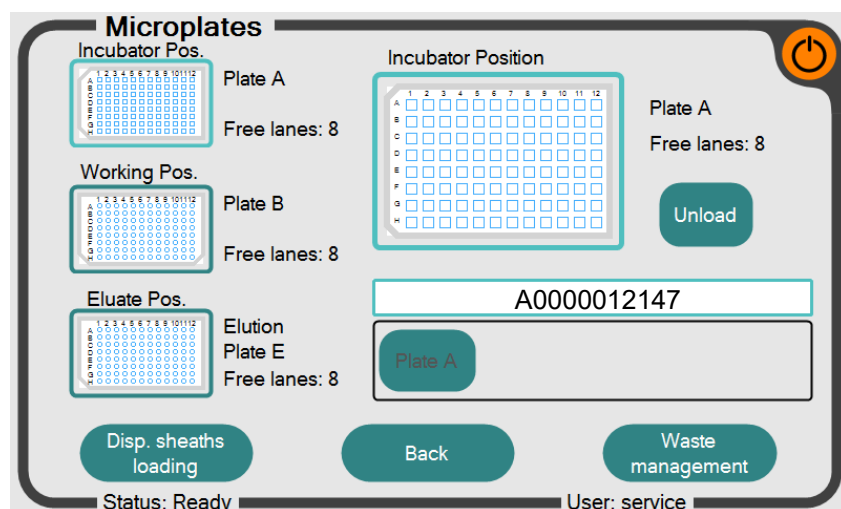

Figure 14: Plate loading screen of the InviGenius® software
Press the bottom “Microplates loading “. Analogous to the previous loading screens, the Incubation Plate A, Working Plate B and Elution Plate E (if no eluate rack) are loaded within the plate loading screen (Figure 14).
- 1.) Press the plate position directly. The software will focus at the plate position on the main screen (in Figure 14 Incubation plate A is focused).